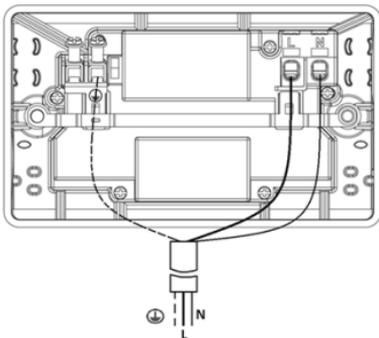

Fig. 1
- Connect the socket to the mains supply ensuring the correct polarity is observed (see Fig. 1): L – Live (Brown), E – Earth (Green/Yellow), N – Neutral (Blue)